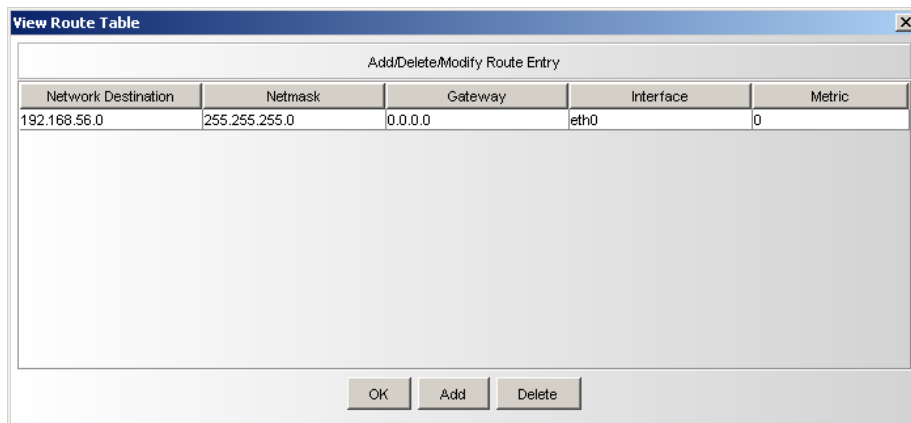

Figure 5-41. View Route Table
1. On the **View** menu, click **View Manual Route**. The View Route Table appears, with the current route tables shown (see Figure 5-41).